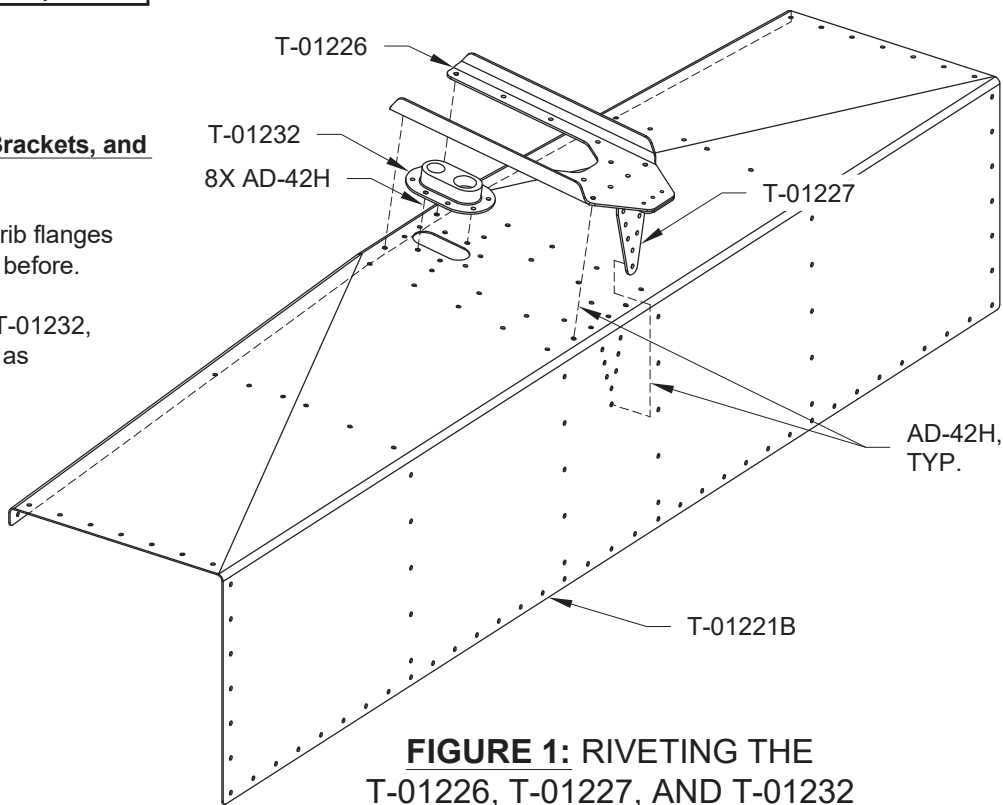

FIGURE 1: RIVETING THE T-01226, T-01227, AND T-01232
Step 2: Apply sealant to the flange of the T-01232, then rivet it to the bottom of the T-01221B as shown in Figure 1.
Step 3: Apply sealant to the mating surfaces of the T-01226 and T-01227, then rivet the parts to the T-01221B as shown in Figure 1.